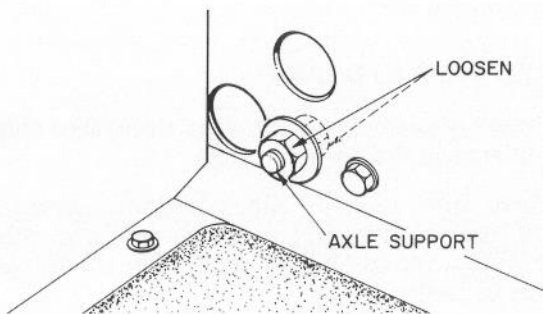
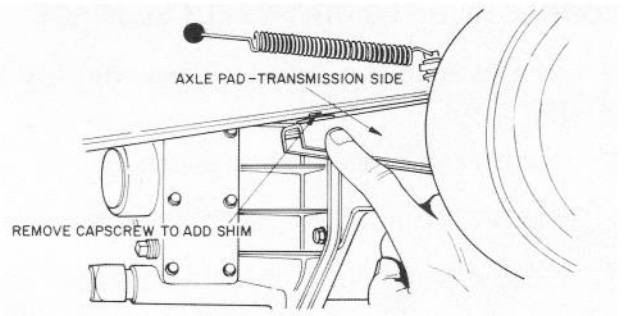

Figure 58
Figure 59
2. To correct vertical misalignment, loosen axle support nuts at rear of floor plate (Fig. 58). A transmission that is too high will have a gap between the scale and the coupling retainer. To correct this problem, install a 1/16 inch (1.6 mm) spacer between rear of mounting pad and bottom of frame (Fig. 59). By contrast, a transmission that is too low will not allow the ruler or scale to lay alongside the coupling retainer. To correct this problem, install a 1/16 inch (1.6 mm) spacer between front of mounting pad and bottom of frame.
3. To install spacers, remove the appropriate two cap screws and loosen the others (Fig. 59). If spacers must be added to front of mounting pad, remove front cap screws and loosen the back ones. Do just the opposite to add spacers at rear of mounting pads.